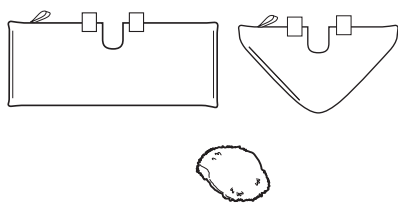

fig. 27
- 1 We recommend washing your cleaning pad and bonnets separately from other fabrics to avoid picking up lint. **Only use liquid detergent (no powder detergent). Do not use any fabric softeners or bleach.** Line dry or dry on a low dryer setting. (fig. 27)